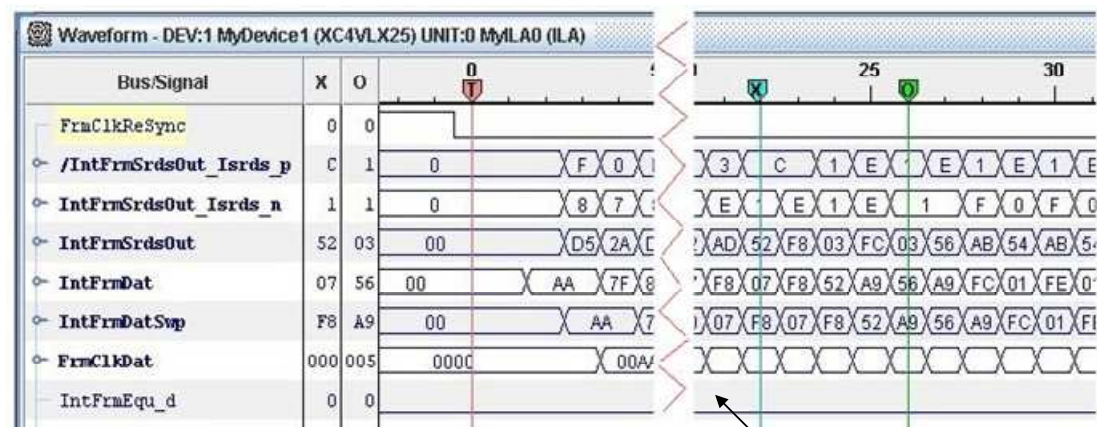

Figure 1
An ISERDES outputS then sometimes twice the same data. This is shown in figure 1.
- The results from figure 1 taken apart:
This is the pattern seen in the Figure 1 on previous page.